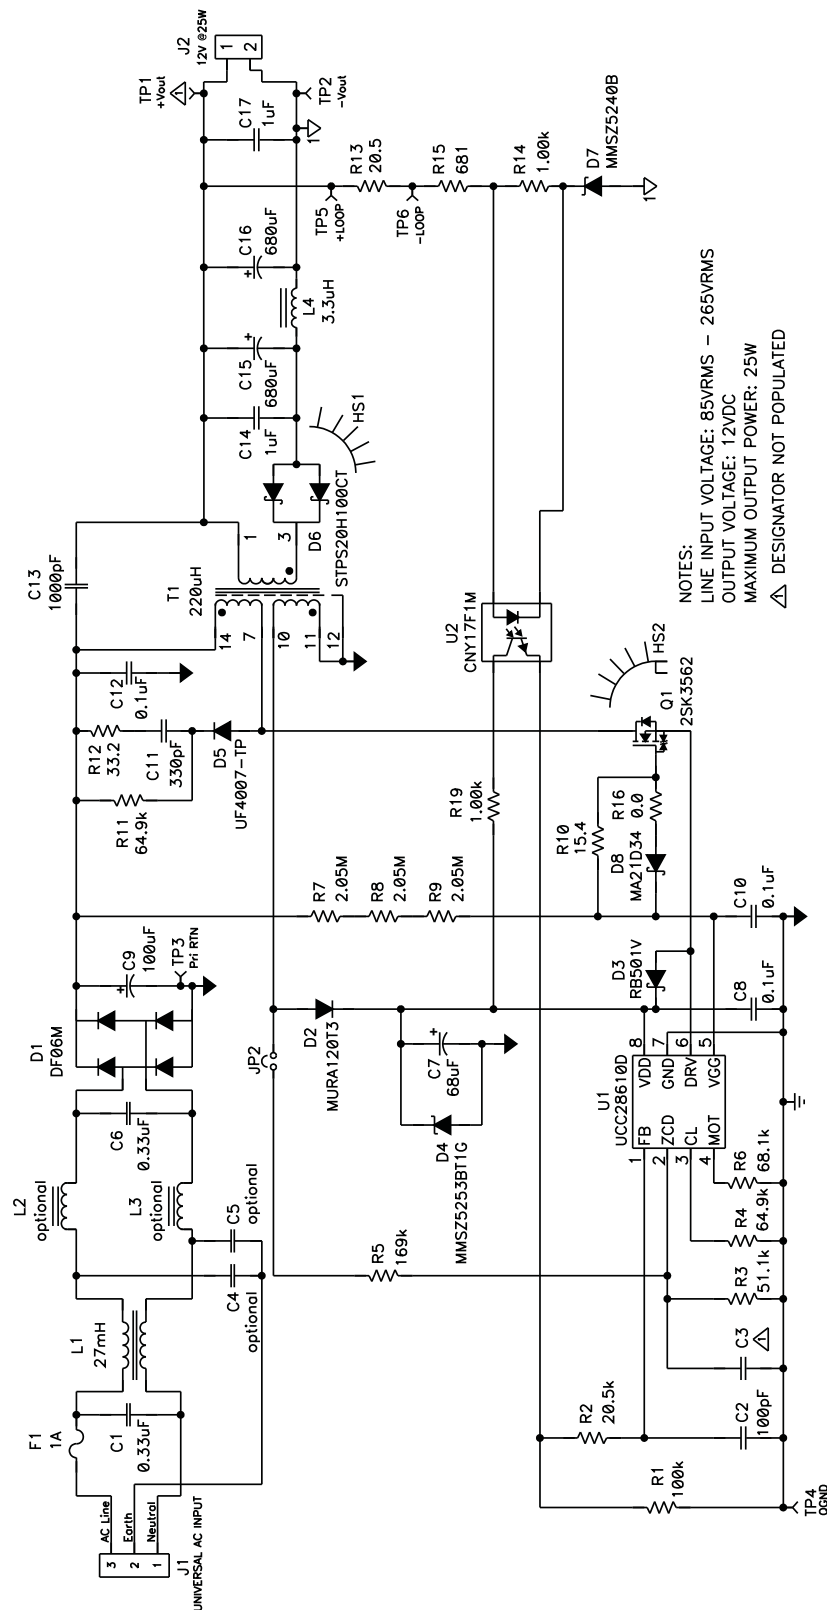
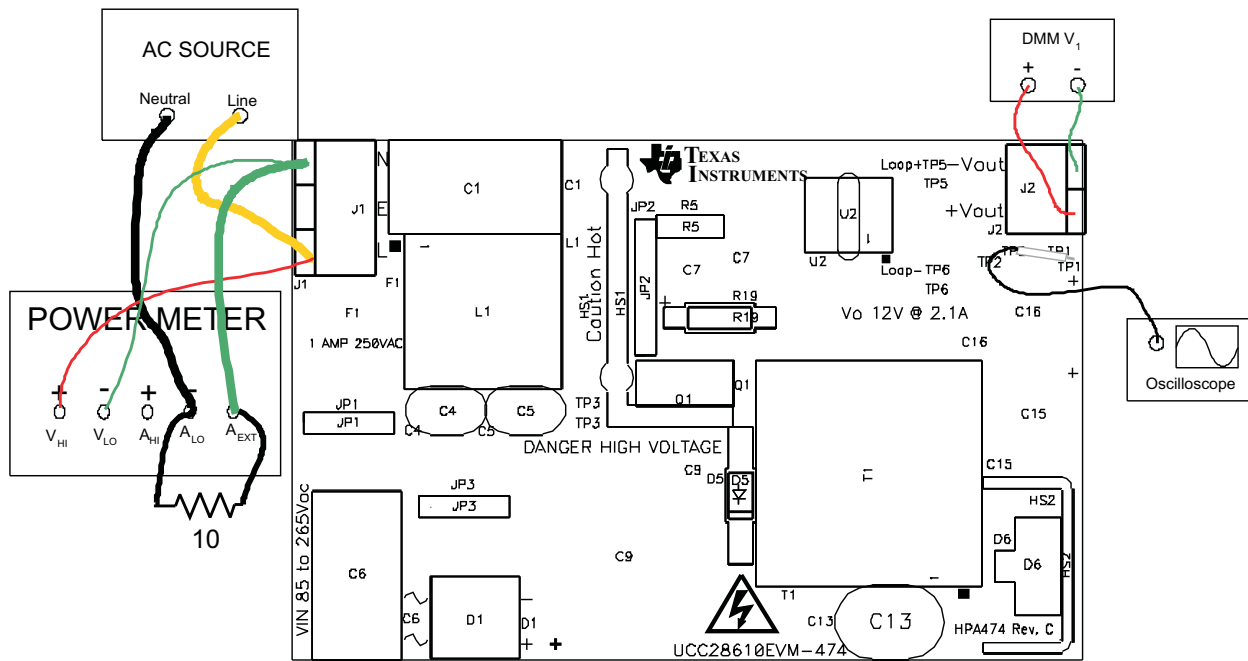
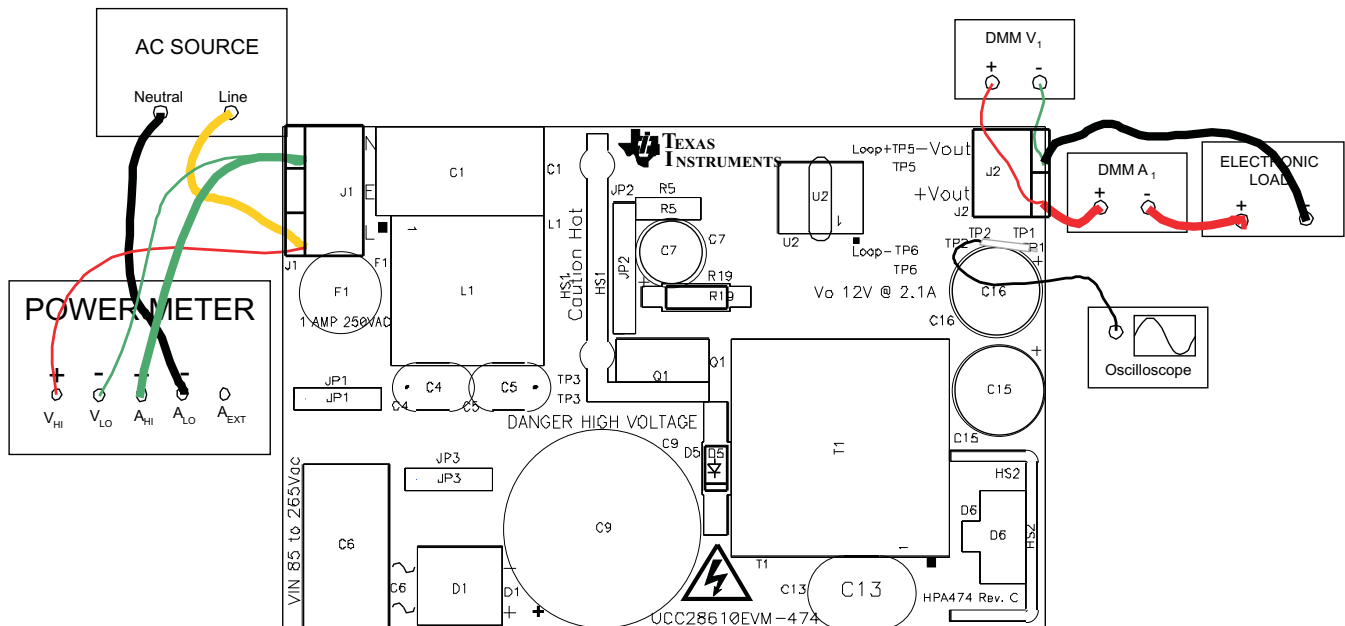

Figure 2. UCC28610EVM-474 Schematic
Figure 3. UCC28610EVM-474 Recommended Test Set Up Without a Load
Figure 4. UCC28610EVM-474 Recommended Test Set Up With a Load
Figure 2 shows the equipment set up when measuring the input power consumption during no load. Note the addition of the 10-Ω shunt resistor in Figure 3. During the no-load test, the power analyzer should be set for long averaging in order to include several cycles of operation and an appropriate current scale factor for using the external shunt must be used. Figure 3 shows the basic test set up recommended to evaluate the UCC28610EVM-474 with a load.
See Figure 3 and Figure 4 for recommended test set ups.
- **AC Input Source:** The input source shall be an isolated variable AC source capable of supplying between 85 V_{RMS} and 265 V_{RMS} at no less than 30 W and connected as shown in Figure 3 and Figure 4. For accurate efficiency calculations, a power meter should be inserted between the neutral line of the AC source and the Neutral terminal of the EVM. For highest accuracy, connect the voltage terminals of the power meter directly across the Line and Neutral terminals of the EVM.
- **Load:** For the output load, a programmable electronic load set to constant current mode and capable of sinking 0 to 3 A_{DC} at 12 V_{DC} shall be used. For highest accuracy, V_{OUT} can be monitored by connecting a DC voltmeter, DMM V₁, directly across the +V_{out} and –V_{out} terminals as shown in Figure 3 and Figure 4. A DC current meter, DMM A₁, should be placed in series with the electronic load for accurate output current measurements.
- **Power Meter:** The power analyzer shall be capable of measuring low input current, typically less than 10 mA, and a long averaging mode if low power standby mode input power measurements are to be taken. An example of such an analyzer is the Voltech PM100 Single Phase Power Analyzer. To measure the intermittent bursts of current and power drawn from the line during no-load operation, an external 10-Ω shunt, with a current scale factor of 10 A/V, was used at a high sample rate over an extended period of time in order to display the averaged results (refer to Figure 3).
- (a) If no-load input power measurements are to be made, set the power analyzer to long averaging and external shunt mode. Insert a shunt, such as a 10- Ω resistor as shown in Figure 3, in series with the Neutral terminal of the EVM. Set the appropriate current scale on the power analyzer.
- (b) For operation with a load, as shown in Figure 4, set the electronic load to constant current mode to sink 0 A.
1. Use the test set up shown in Figure 3.
- (a) Use the test set up shown in Figure 4.